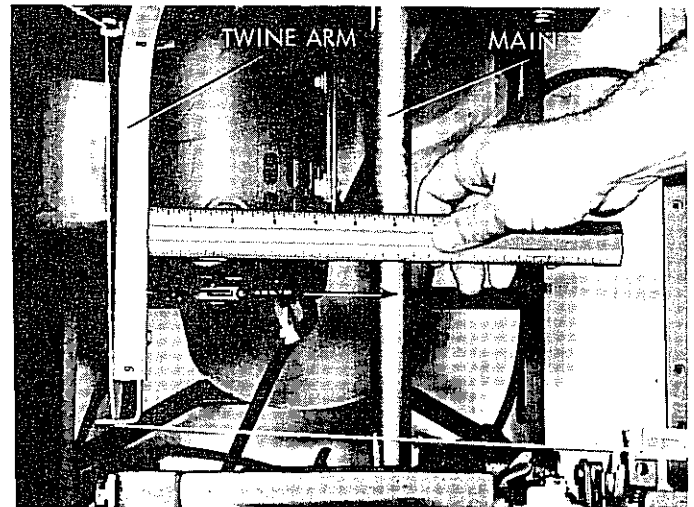

Figure 40. Aligning Twine Arm with Main Shaft
5. Manually rotate pulley in clockwise direction until inside edge of twine arm is approximately 6 inches past center of main shaft (figure 40).